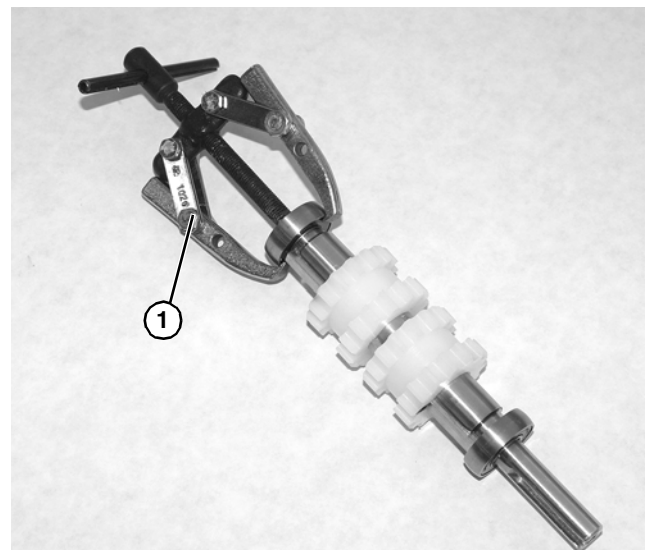

Figure 50
- Use bearing removal tool (807-1078) (**Figure 50, item 1**) to remove bearings from drive pulley.